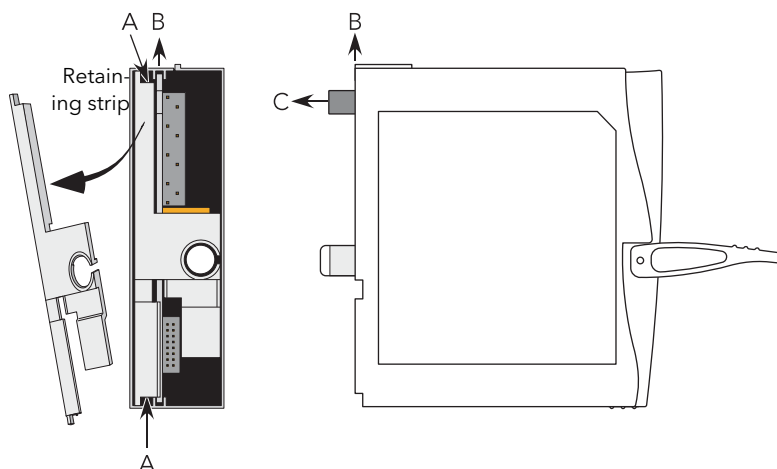

Figure 2.3.14d Removal of the relay board from the module
2. With the module locking lever in the unlocked position*, use a small screwdriver, inserted at points 'A' (figure 2.3.14d), to lever the card retaining strip gently out of the module case. Attempting this with the lever in the locked position may result in damage being caused to the module case.